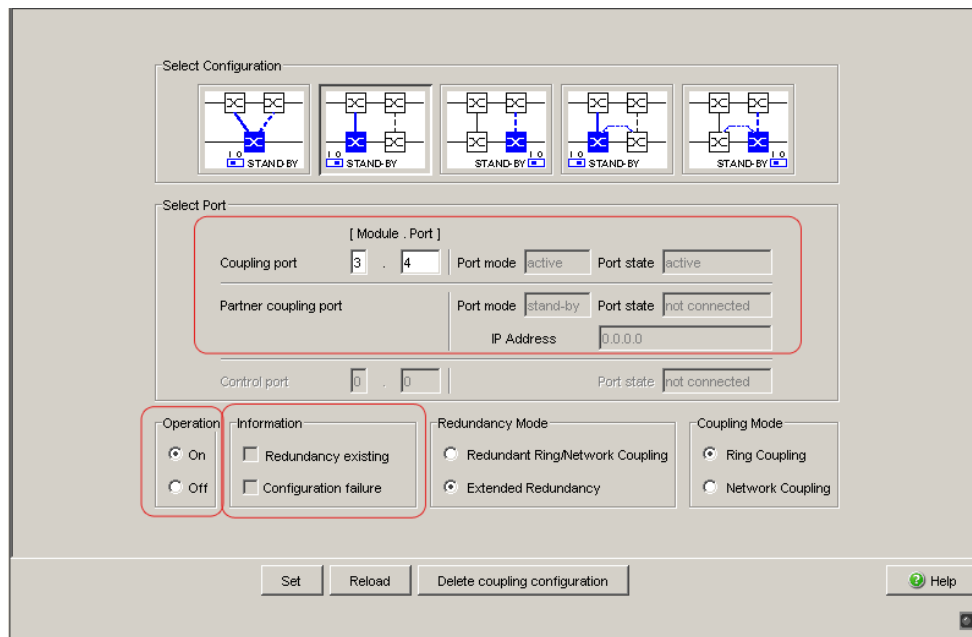

Figure 16: Selecting the port and enabling/disabling operation
- ☐ Activate the function in the “Operation” frame (see fig. 16).
The displays in the “Select port” frame mean (see fig. 16):
- ☐ Select the coupling port (see fig. 16), (see table 7).
The displays in the “Information” frame mean (see fig. 16):